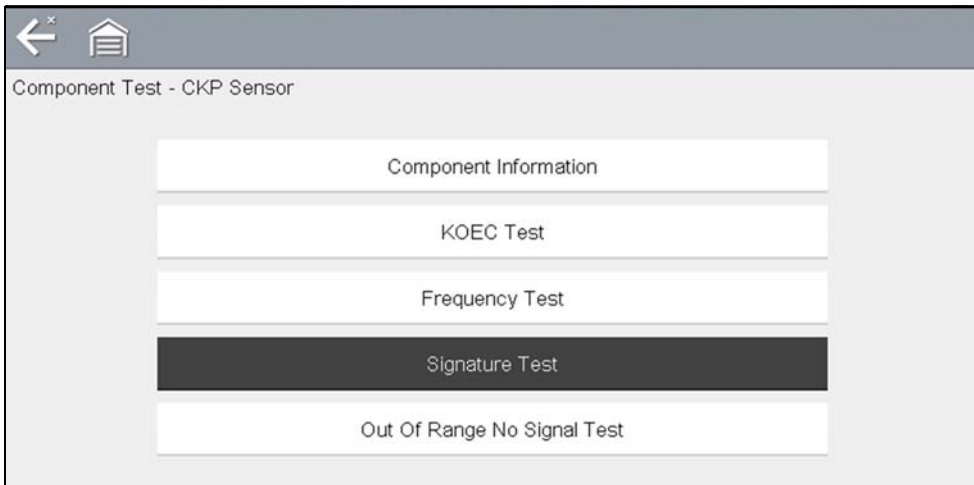

Figure 11-7 Component Test Menu
2. Select a **Test** from the Component Test menu (Figure 11-7).